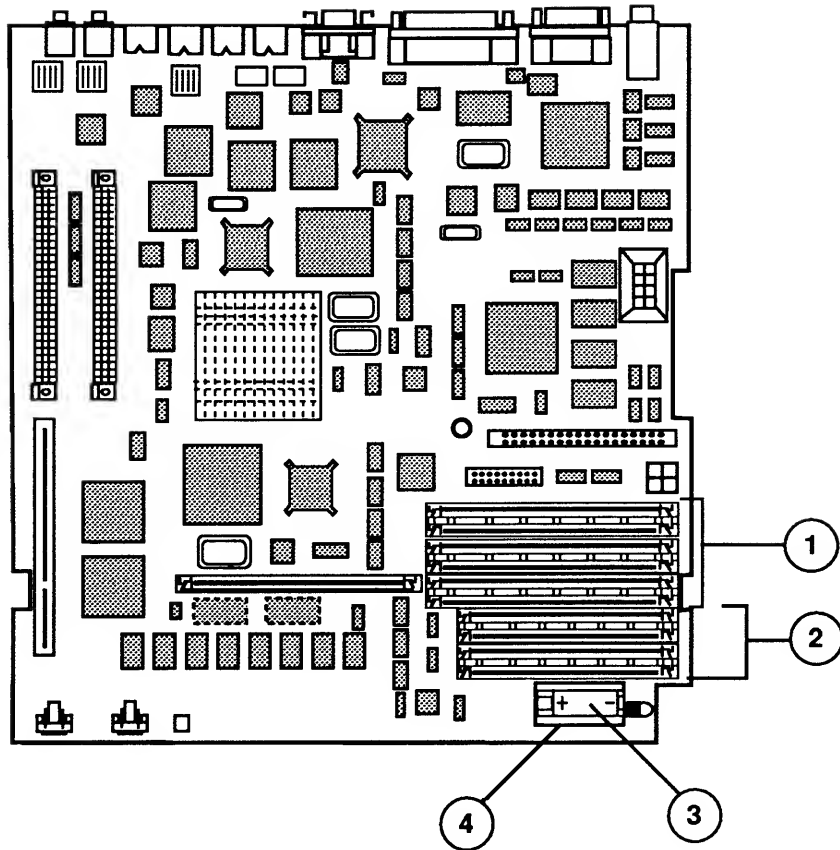

Figure 7 Macintosh Quadra 700 – Logic Board
□ MACINTOSH QUADRA 700 – LOGIC BOARD (Figure 7)